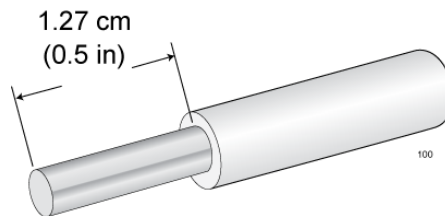

Figure 23. Stripping the Grounding Wire
1. Prepare an adequate length of stranded grounding wire (10 AWG) for the ground connection by stripping it as shown in Figure 23.